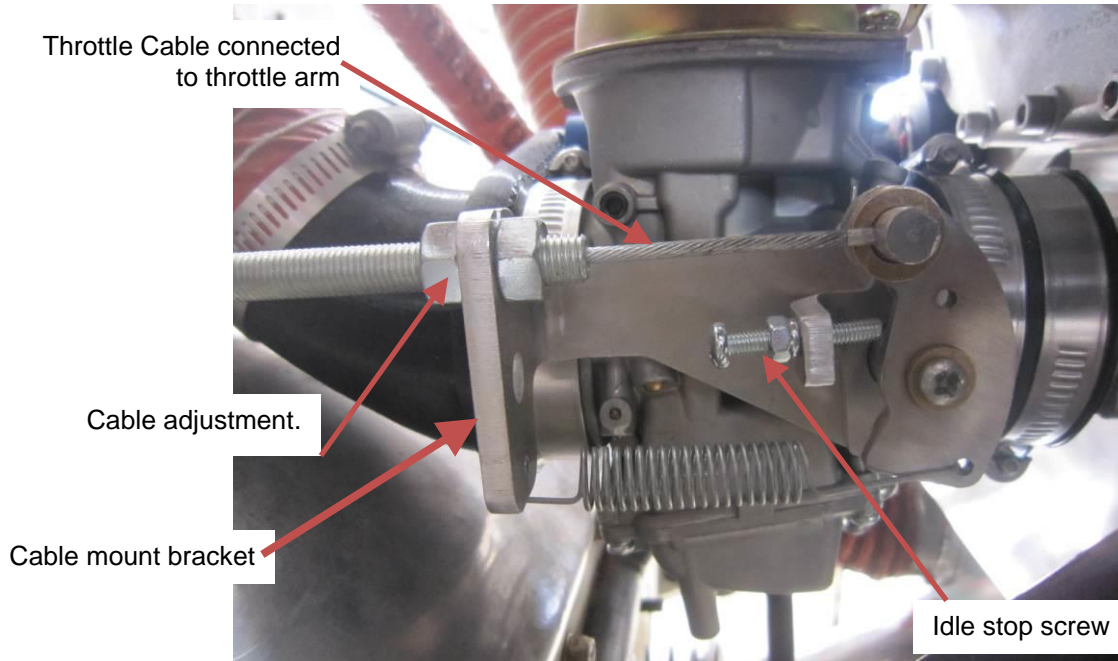

Figure 2: Throttle cable connections.
- The idle stop for the throttle can be adjusted using the adjuster screws and nuts shown in Figure 2. A 7mm spanner and a Phillips screwdriver/ **another 7mm spanner** is required.
- The Idle Stop Screw (shown in Figure 2) must be adjusted as a part of the engine installation process to correctly set idle RPM.